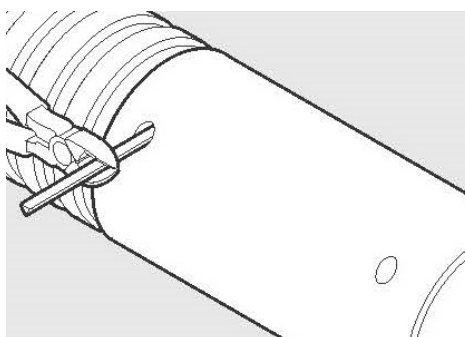

Figure 32
7. Trim excess key lock strip material as shown in Figure 32.
8. Repeat steps 1–7 for the opposite end of the coupler and corrugated conduit. See Figure 32 for complete installation.